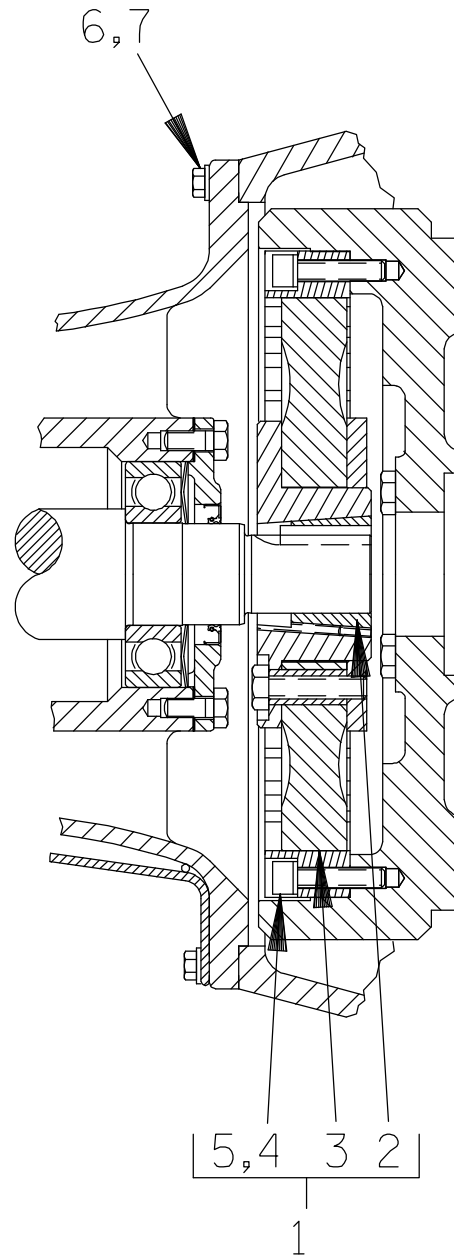

Figure 3. Drive Assembly For Pump End 86A2-(SAE 4/10)
(Figure 3)
Install the shaft key (25, Figure 2) in the shaft keyway. Position the flexible portion of the coupling assembly (3) on the shaft as shown in Figure 3.